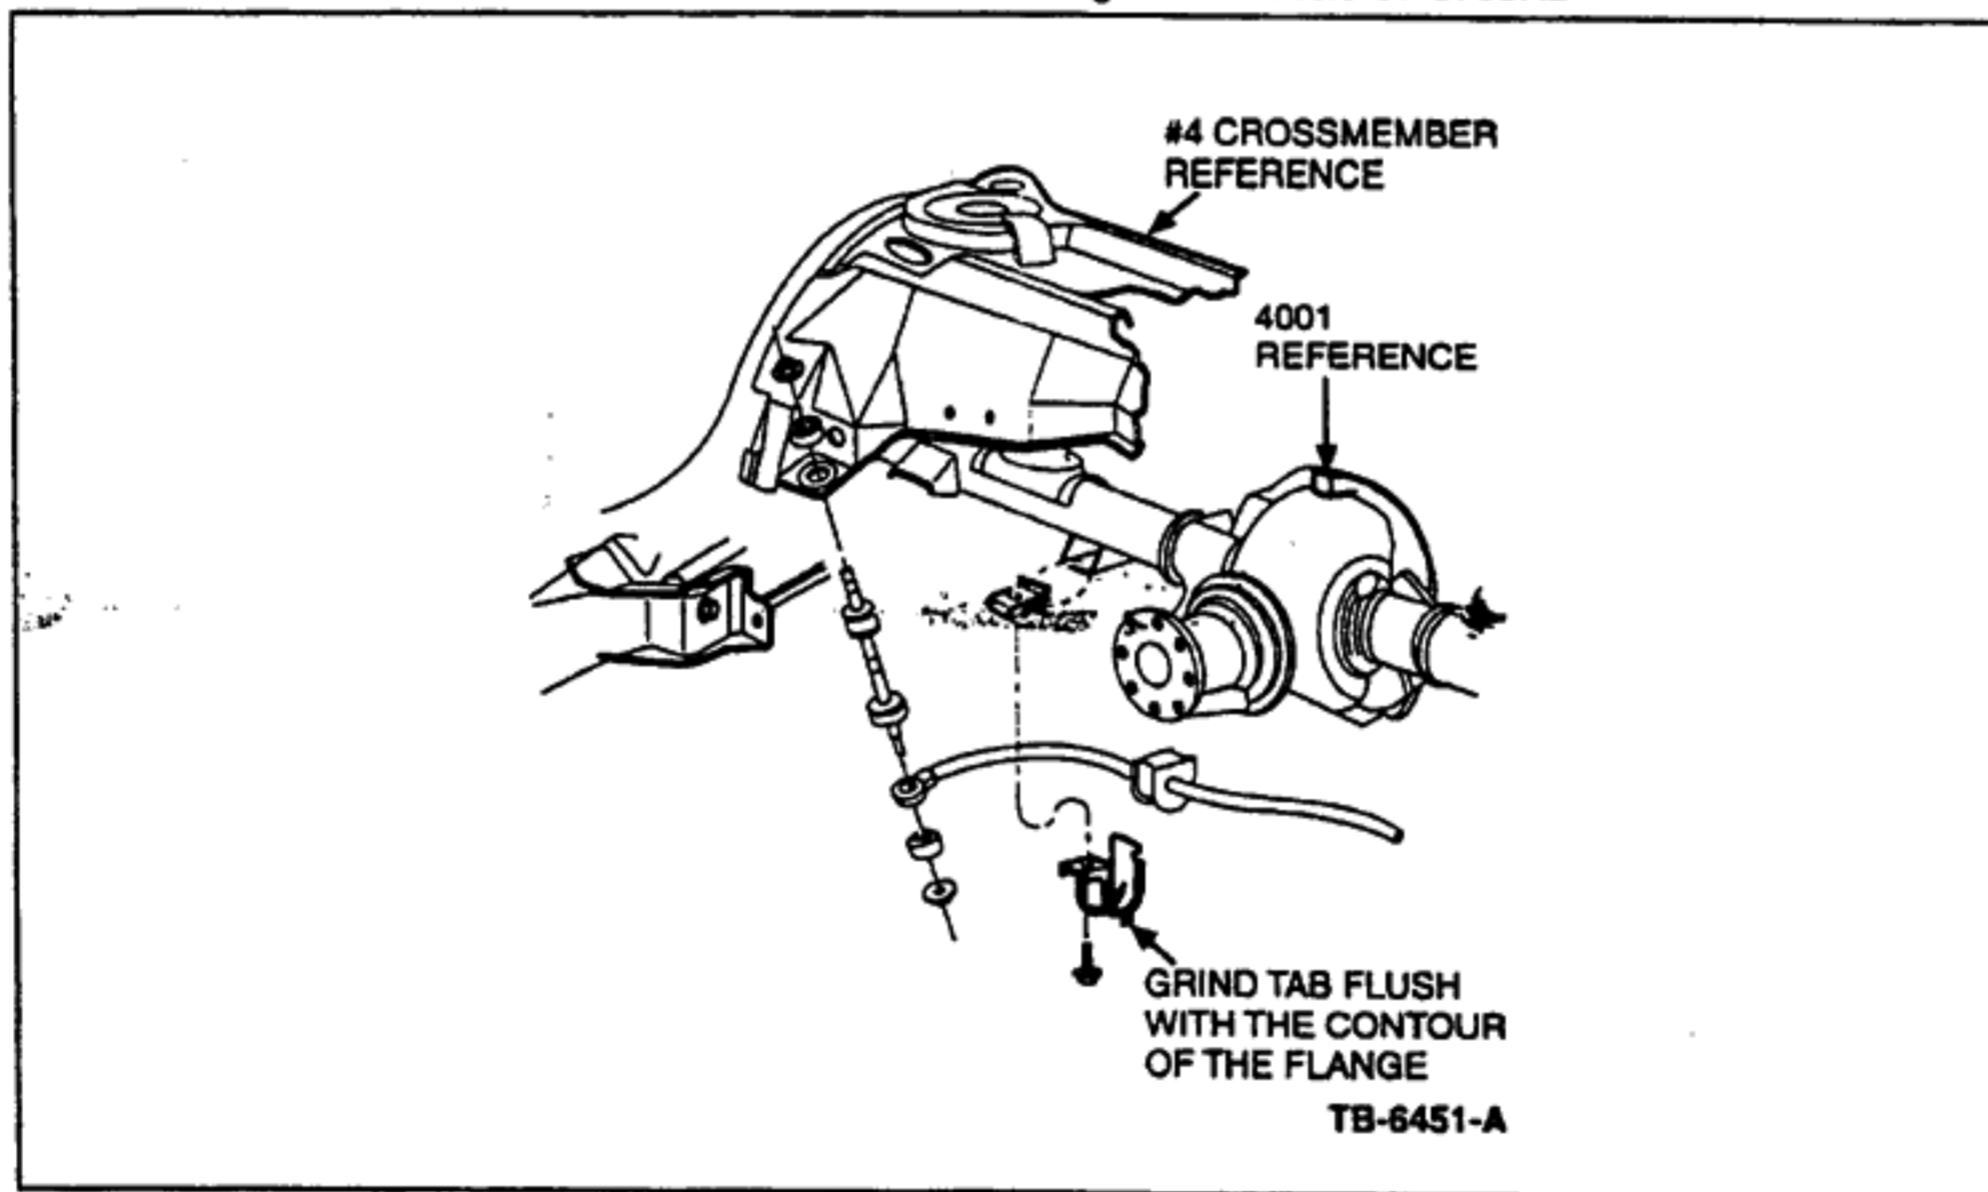

Figure 2 - Article 97-3795R2
2. On 1992-2001 vehicles, use a die grinder or electric grinder with suitable carbide or grinding wheel to remove the 4 mm high by 6 mm wide tab which protrudes down from one flange of the rear stabilizer bar axle attachment 'U' bracket. There is a "U" bracket at each end of the center section of the rear stabilizer bar (Figure 2).